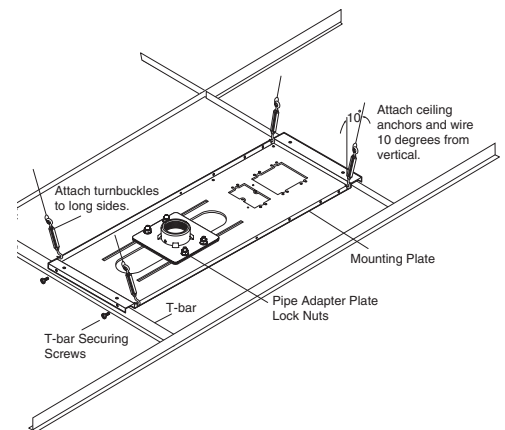

Figure 5. Attach Tie Wire and Safety Cable.
- d. Mark and drill four holes, approximately 1¼ inch (32 mm) deep into the ceiling joists, using a 1/4 inch (6.4 mm) diameter drill bit. Do this at 10 degrees out from vertical. Drill a fifth hole centered above the PCM for the safety cable (see figure 5). Minimum suitable joist size should be 2 inches by 4 inches.